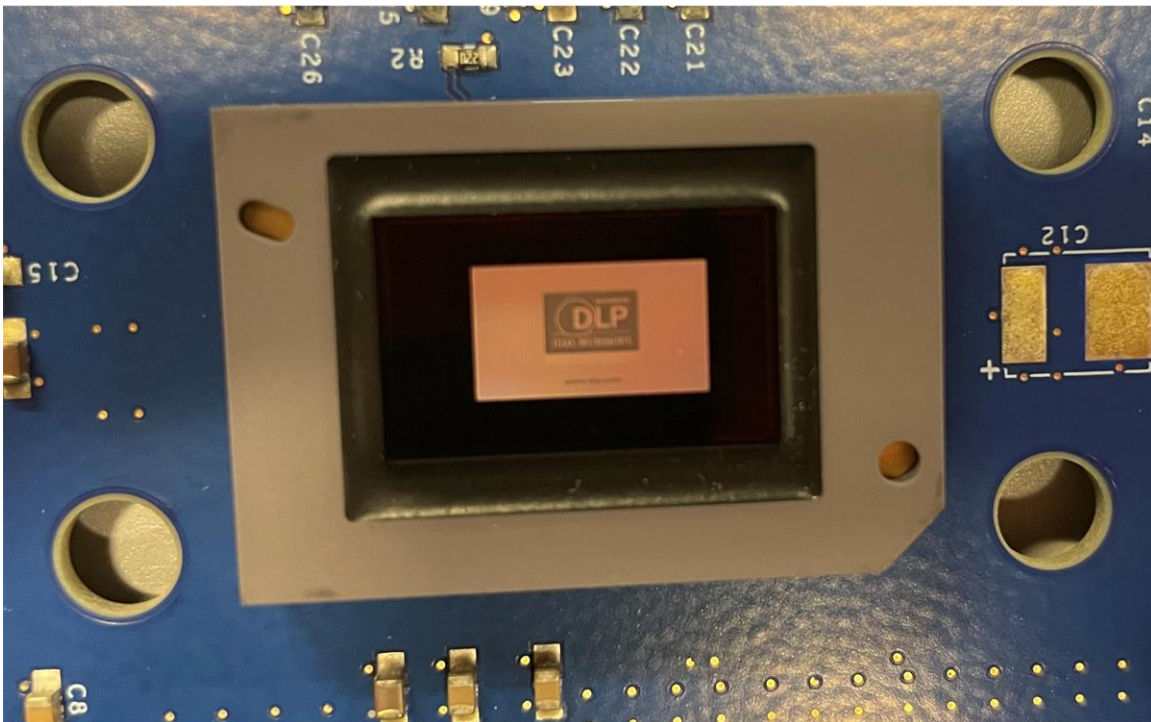

Figure 2-5. Splash Image Displayed on DMD
- d. Turn on the EVM by toggling the SW5 and SW1 switches in that order to *on* position. After about 3 seconds you should see D5, D6, and D7 LEDs steadily on and D15 LED flashing. The DLP Texas Instruments logo should be visible on the DMD Figure 2-5.